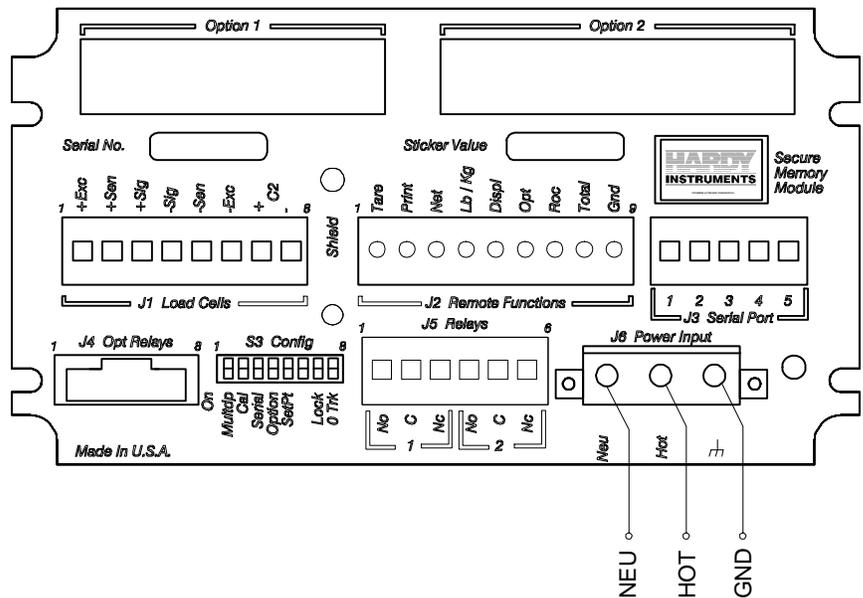

FIG. 3-8 POWER WIRING DIAGRAM
- Step 4. To connect power to the controller, install a 3-wire, minimum of a 14 AWG power line to the 3-pin terminal block connector. (See Fig. 3-8)